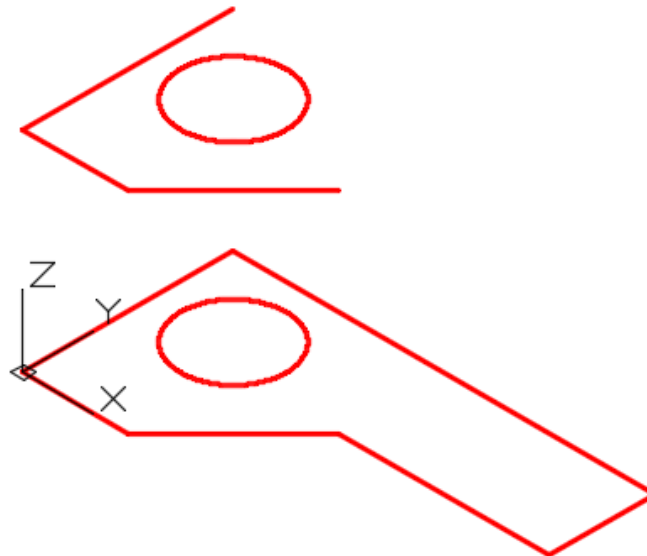

Figure Step 8
Step 8 Freeze layer: Construction. Enter the COPY command, as shown below, and copy the three lines and the circle 4 units in the positive Z direction. (Figure Step 8).
(Select the three lines and the circle as shown in Figure Step 8.)